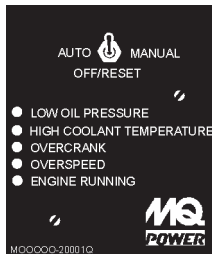

Figure 44. Engine Running LED (ON)
6. Verify that the Engine Running status LED on the MPEC unit (Figure 44) in **ON** (lit) after the engine has been started